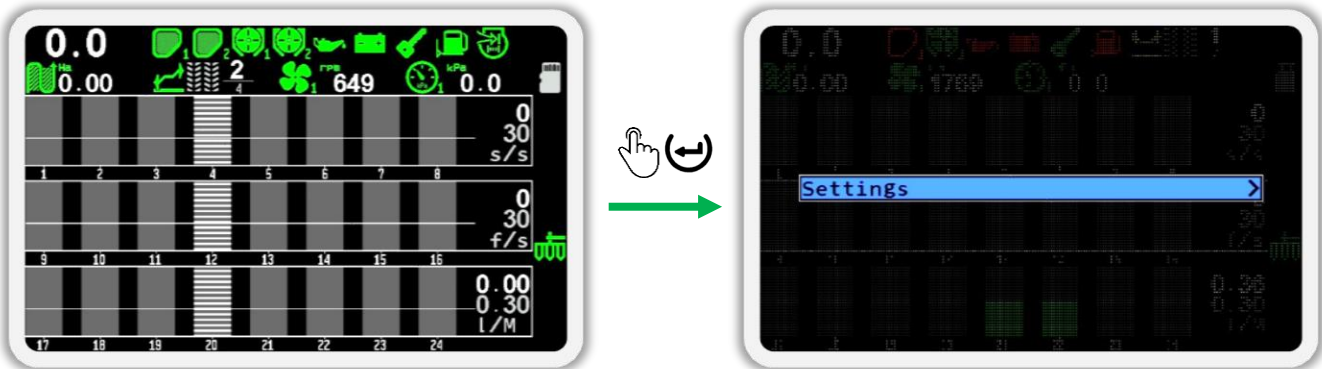

Figure 43
1. On the main screen, press the  “Menu” button. As a result, the main screen menu with an  “Settings” item will be displayed (see Figure 43).